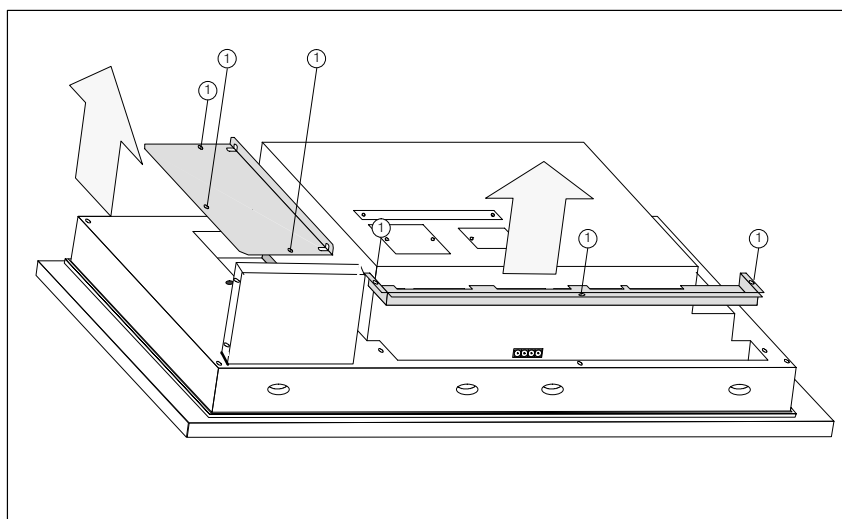

Figure 2-4 Release rivets
2. With reference to Figure 2-4, release the rivets ①.